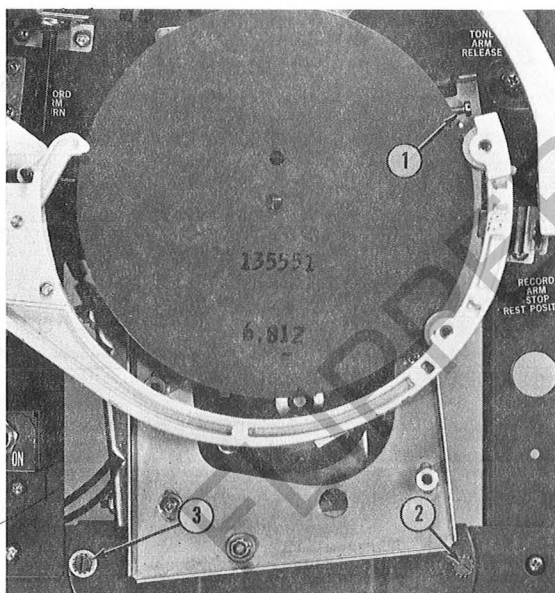

FIGURE 3
14. Release turntable pilot by manually applying pressure to the 33-1/3 spindle. Turn service switch to on and then to off position just prior to fixtures placement on the turntable. Check for turntable centering. Readjust turntable for centering if necessary (see Fig. 3).